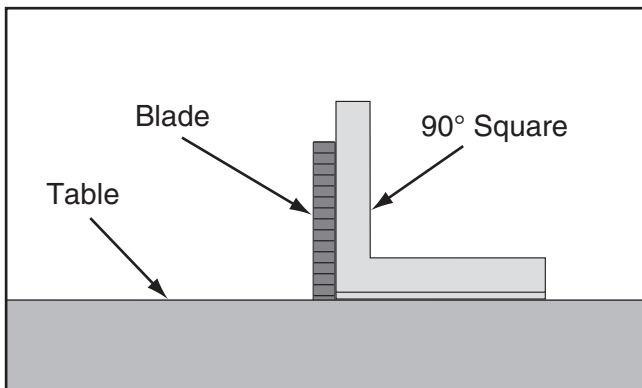

Figure 98. Checking blade at 90°.
3. Place a 90° square against the table and blade so it contacts the blade evenly from bottom to top, as shown in **Figure 98**. Make sure a blade tooth does not obstruct the placement of the square.
6. Place a square against the blade, as shown in **Figure 98**, then adjust the blade until it is perfectly square to the table.